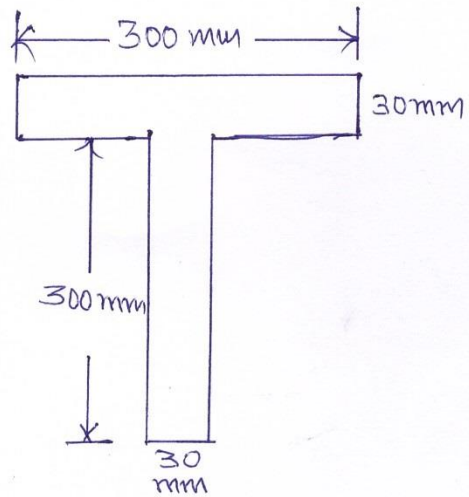

fig. 4
- (d) Find moment of inertia for the T-section shown in fig.4 about x-x axis. **04**